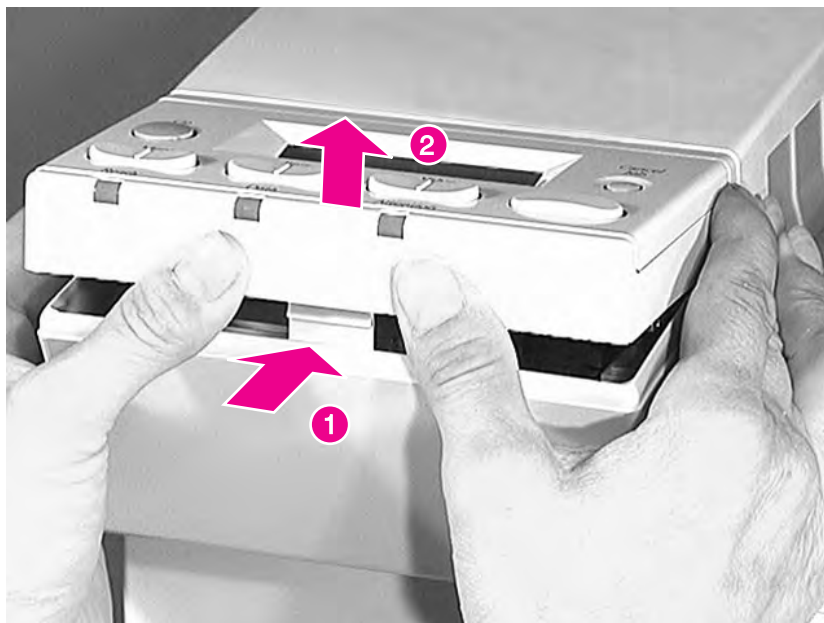
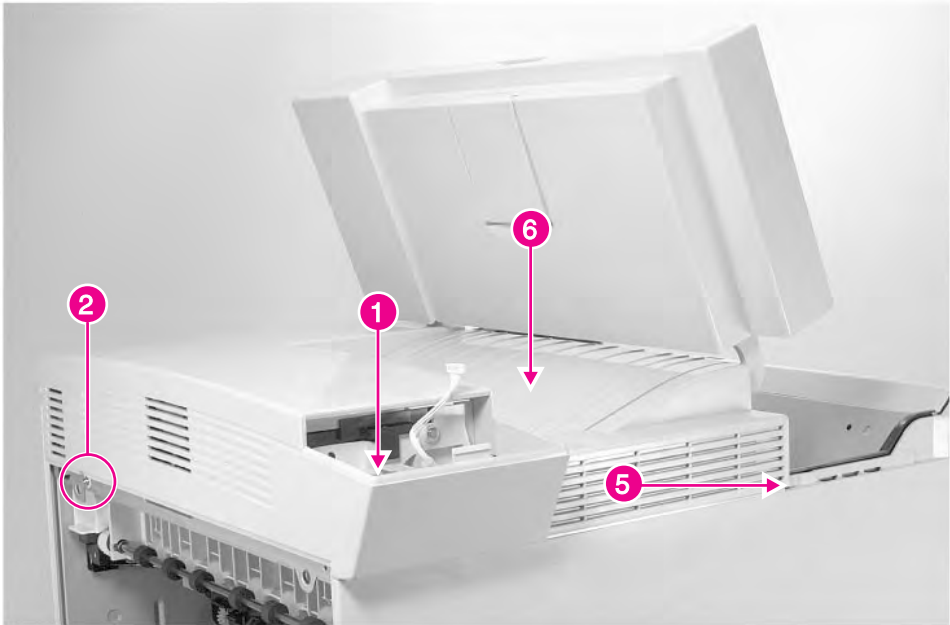

Figure 6-3 Control Panel (1 of 2)
Figure 6-10 Top Cover (1 of 2)
- 1 While pushing in on the center area (figure 6-3, callout), lift up on the forward edge of the control panel to release the plastic retaining tab.
- 1 Remove the Control Panel (see figure 6-3 on page 163), then remove 1 screw (figure 6-10, callout 1).
- 2 Open the Diverter Assembly access door, and remove 1 screw (figure 6-10, callout 2).
- 4 Lift (and hold) the top cover door up, and carefully pull out on the cover to release the retaining tab (figure 6-10, callout 5).
- 5 Hold the Standard Output Bin (figure 6-10, callout 6) down while carefully and slowly lifting the top cover straight up until it clears the Standard Output Bin Full sensor flag and the Delivery Unit.
- 1 Hold the top cover door up and the Standard Output Bin (figure 6-10, callout 6) down while lowering the cover into position.
- Top Cover (see figure 6-10 on page 171)
- 2 Remove the top cover (see figure 6-10 on page 171).